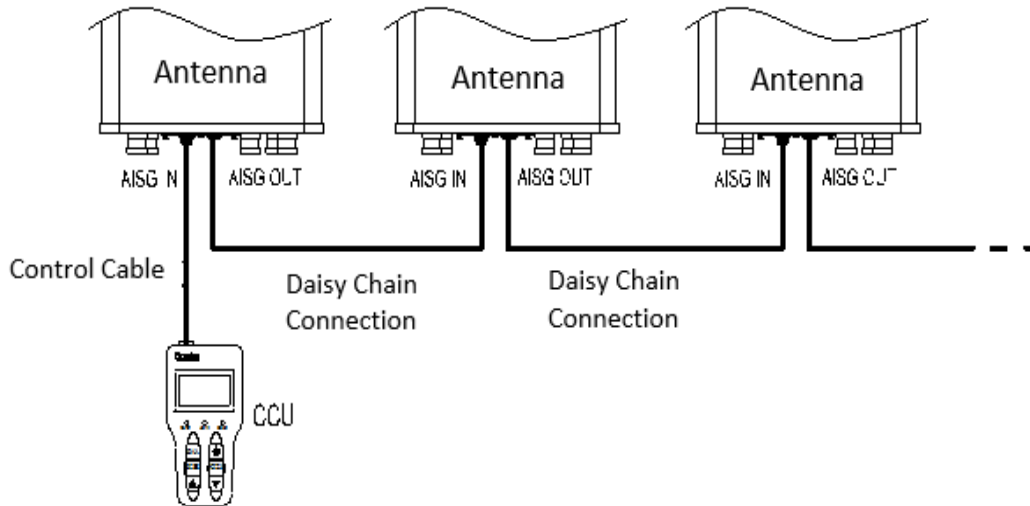

Figure 3-4 Multiple IRCU Daisy-Chain Cascade Schematic Diagram
d) If there is more than one IRCU need to be connect, daisy-chained cascade method can be used as show in Figure 3-4.